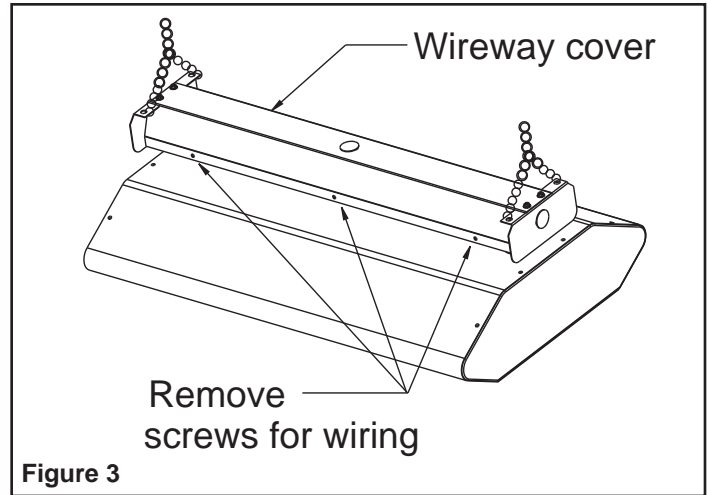

Figure 3
Refer to Figure 3 and proceed as follows. Conduit, connectors, chain loops, and hooks are supplied by others in the following instructions.
2. Attach loop chains (not furnished) on each end of wire cover as shown in Figure 3.
4. Remove screws (see Figure 3) from front of wireway cover and allow heater to rotate down for wiring.